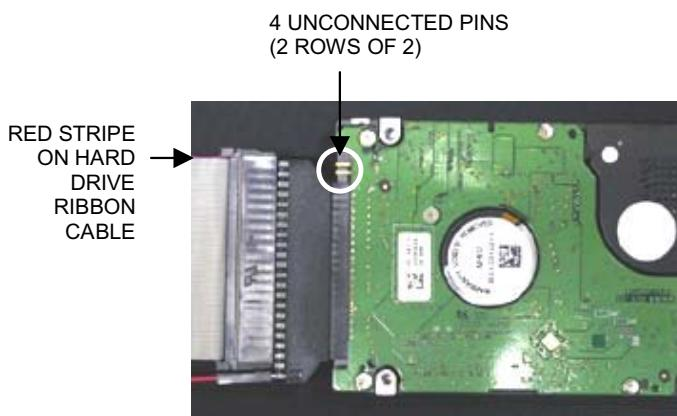

FIGURE 4 - CIRCUIT-BOARD SIDE OF HARD DRIVE
1. Connect the hard drive adapter and attached ribbon cable to the supplied hard drive according to Figure 4. Note that 4 pins on the hard drive are set off and will remain unconnected. Make certain that the red stripe on the ribbon cable (indicating pin-1 position) is inserted facing the unconnected pins. The writing on the plastic of the hard drive adapter and the black wire on the 2-pin power cable should be facing out when installed into the game.